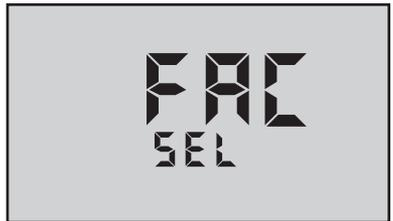

Figure 20
3. Press  repeatedly until you pass the CLR ALL and the C-F locations. The display will show a “**FAC SEL**” (see Figure 20).